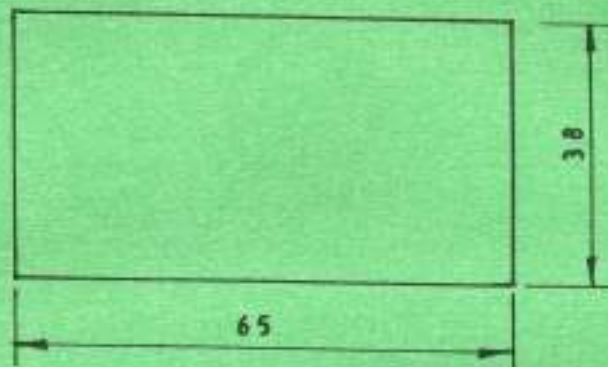

Fig. 1
- (b) Figure 1 shows a rectangle of sides 35 mm and 65 mm. Construct a square equal in area to the rectangle. (5 marks)